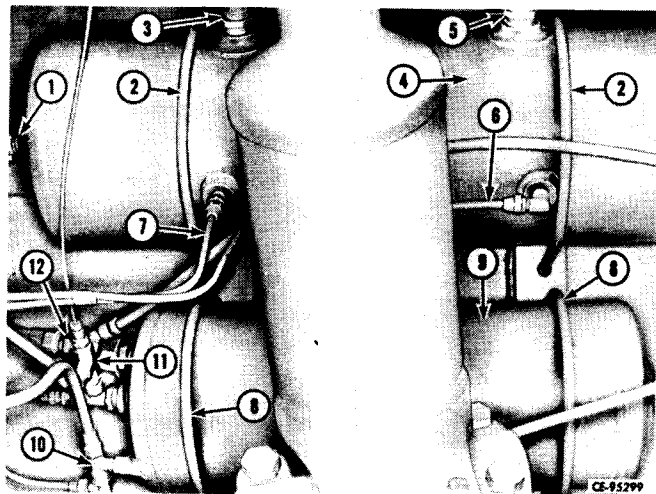

Figure 13-19
WET RESERVOIR - Attach the reservoir (9, Fig. 13-19) to the frame using the U-bolts (8) and locknuts. Connect the check valve (12), tee (10) and pipe cross (11) to the reservoir. Install the safety valve.
DRY RESERVOIR - Attach the reservoir (4, Fig. 13-19) to the frame using the U-bolts (2) and locknuts. Connect the lines (3, 5, 6 and 7) and check valves (1) to the reservoir.